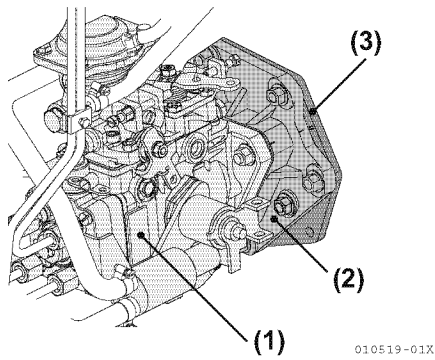

Figure 5-162
- (a) Install the VE pump bracket and O-ring to the gear case while adjusting both mark-off lines of the bracket and gear case **(Figure 5-162).**